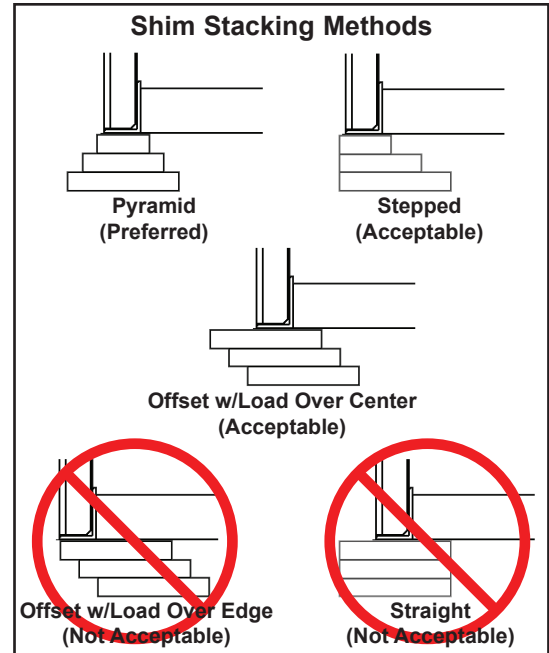

Figure 13
- a. Install shims under maintenance prop (D) where prop attaches to leveler frame. Make sure prop is solidly shimmed.
- b. Raise maintenance prop (D) to the service (upright) position and lock prop in this position using an OSHA approved locking device.
18. Install shims at locations (B) using an appropriate shimming method (see Figure 13). Both hoist cylinder trunnions must be solidly shimmed the entire length of the trunnion. Make sure the trunnions are level from side-to-side as well as from front-to-back.